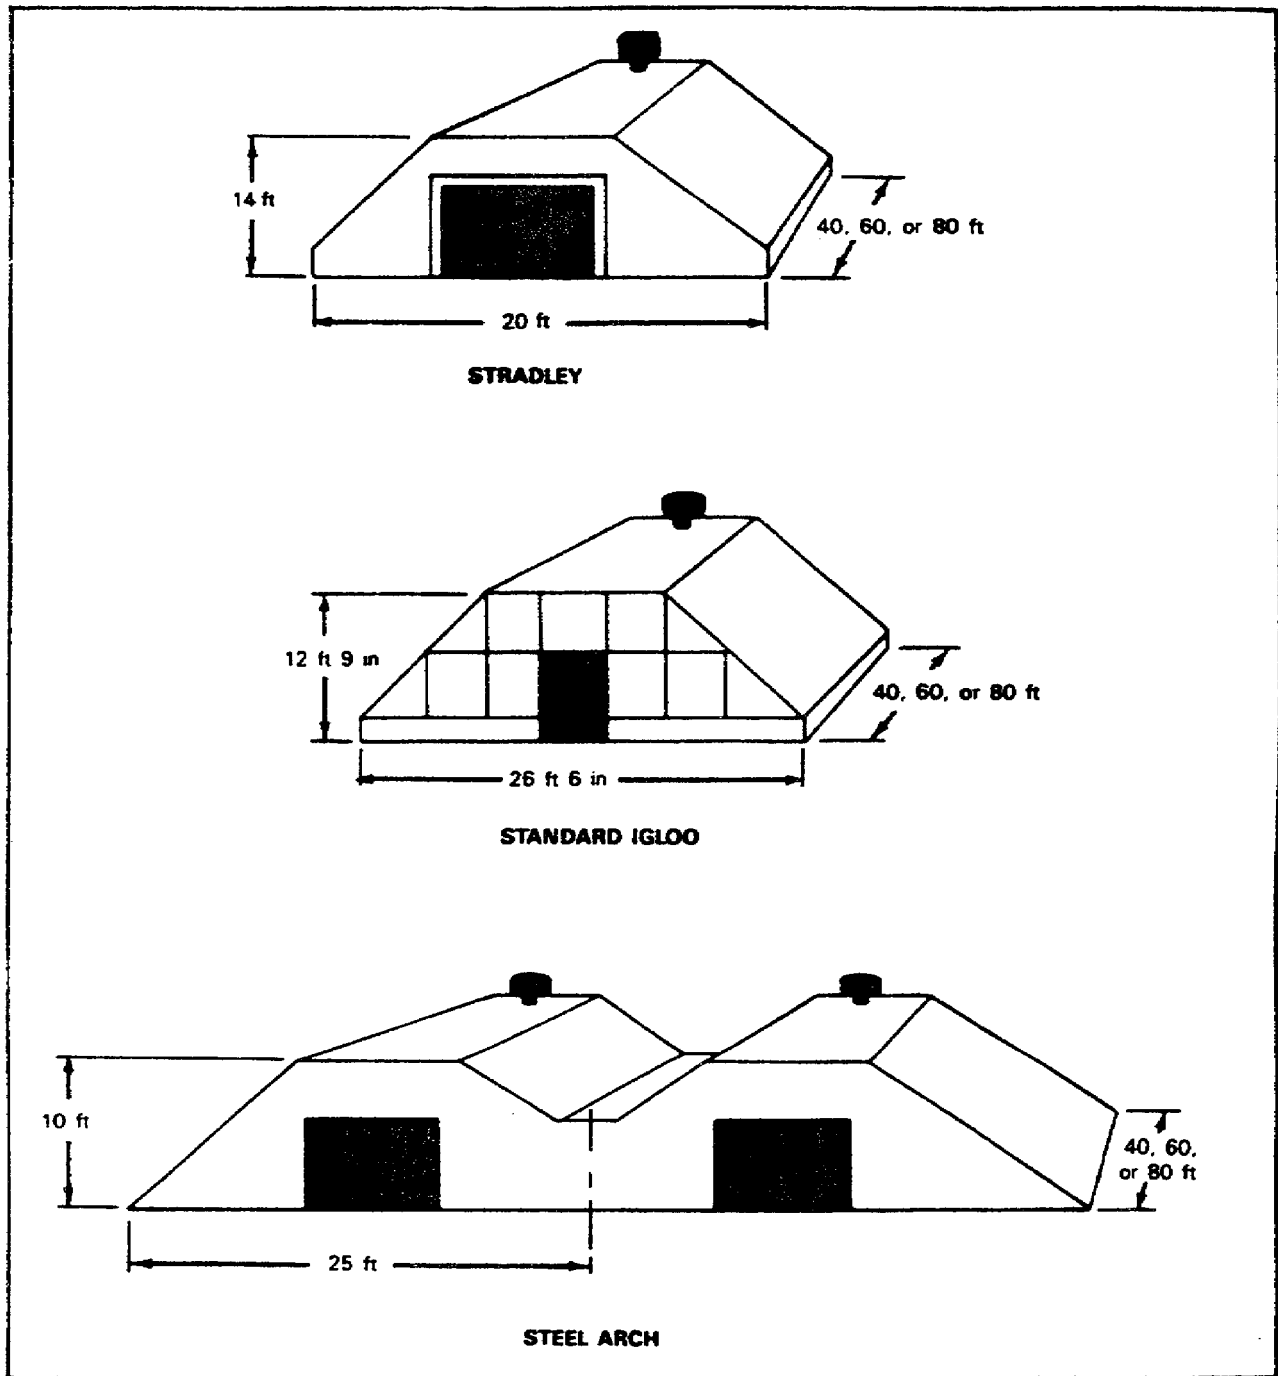

Figure 2-1. Earth-covered Magazines with Some Common Specifications.
**Earth-covered Magazines.** Earth-covered magazines provide the best and safest type of ammunition storage. They allow better temperature control than other types of storage facilities, and are particularly desirable for the storage of propellants and pyrotechnics. They should be used for storing separate loading projectiles and high explosives if enough space is available. Earth-covered magazines include, but are not limited to the standard igloo, the steel arch, and the Stradley (Figure 2-1).